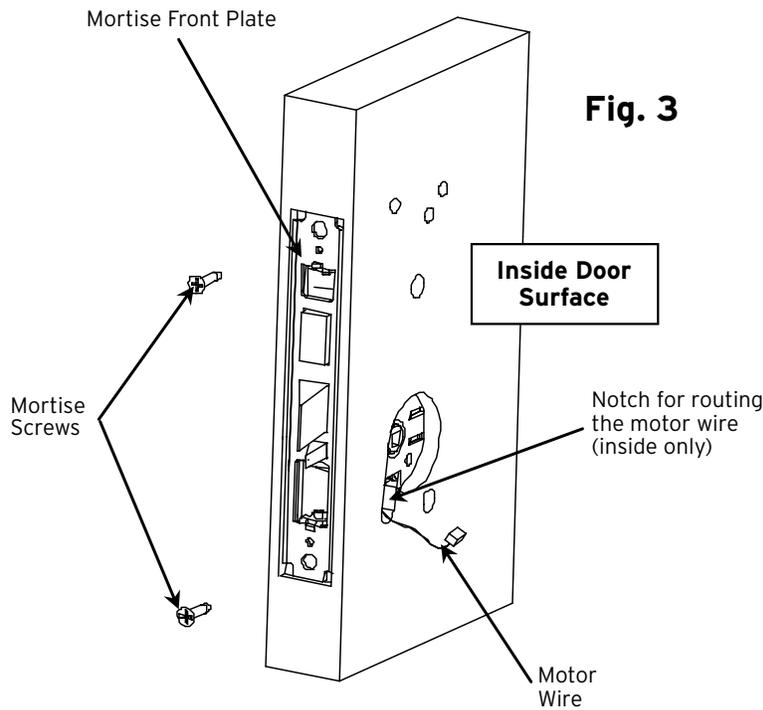

Fig. 3
- The mortise plate has an adjustable bevel. Align the mortise front plate with the bevel of the door edge and tighten the two bevel adjustment screws at the top and bottom of the mortise case. Position the mortise case in the door edge with the motor wire routed through the notch (see Fig. 3).